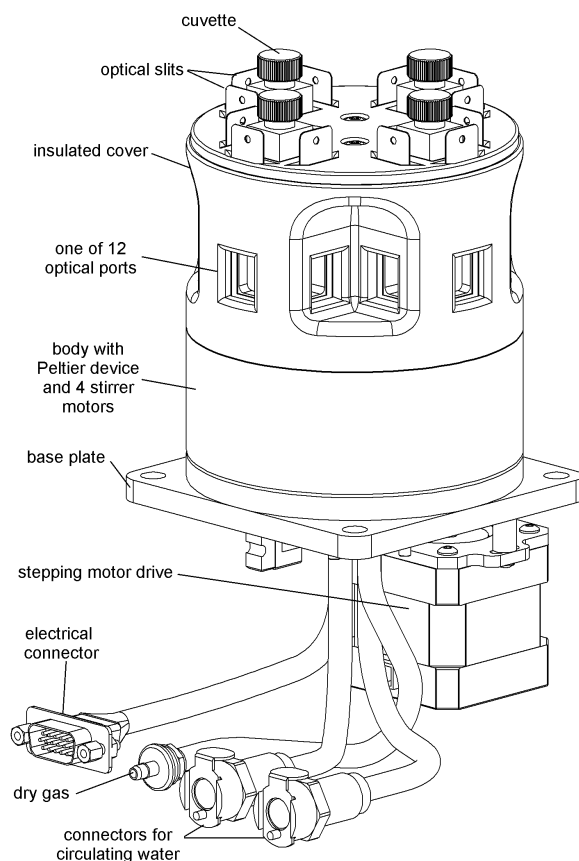

Figure 1.
1. Mount the TURRET 400 in your fluorometer. A typical configuration is shown in Figure 1 on page 3 of this manual, although a wide variety of other configurations is available. Connections typically consist of a 25-pin electrical connector, two tubes carry circulating water for cooling the thermoelectric device, and one tube for dry gas used to prevent condensation on cuvette windows. (We will be pleased to assist you in making the necessary connections for mounting the TURRET 400 in your spectrometer. Please contact us.)